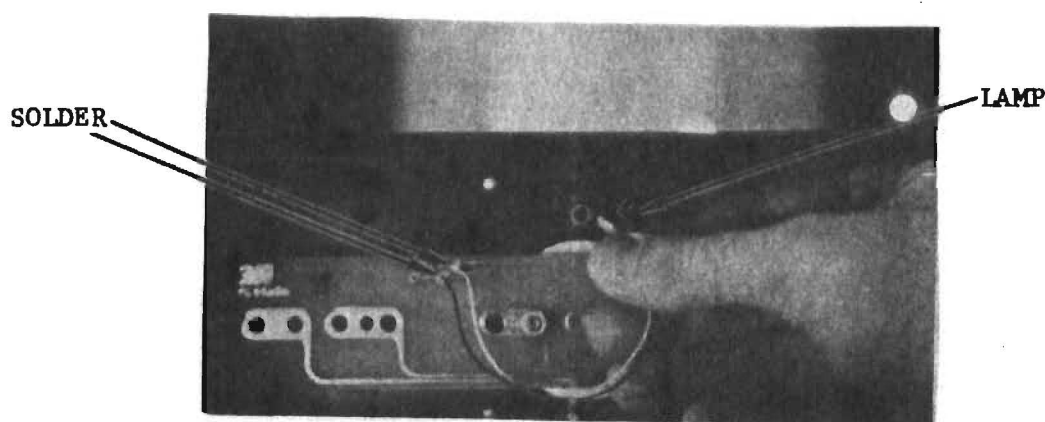

FIGURE 1
- II. Solder wires on lamp holder 83-1620-0294 in place of the removed wires on the mother board (see Figure 1).